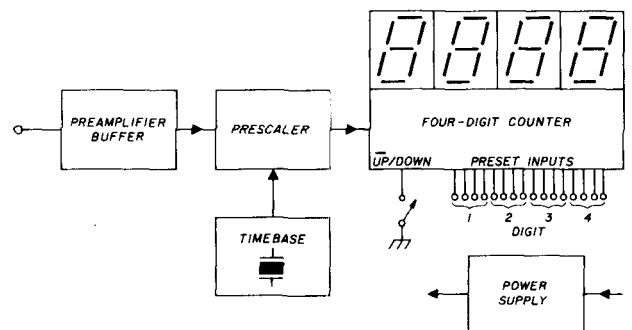

fig. 1. Simplified block diagram of the universal digital readout.
**counter and readout.** The basic four-digit counter consists of four low-power Schottky BCD counters, the 74LS190 (see fig. 1). The BCD outputs of the counters are connected to special LED readouts which contain an internal latch/decoder. The readouts, HP-type 7300, are somewhat expensive. However, for the home brewer they immensely simplify construction.